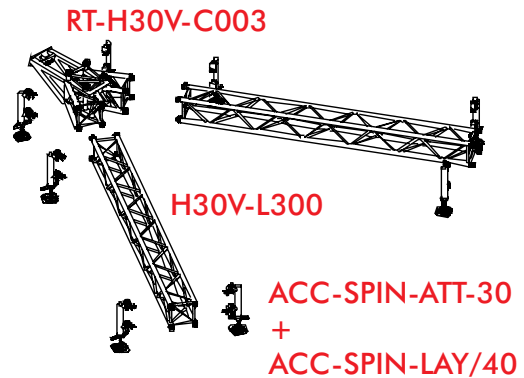

figure 1
**1** Assemble and connect the corner (RT-H30V-C003), the legs (H30V-L300) and the screwjacks (ACC-SPIN-ATT-30 + ACC-SPIN-LAY/40). See figures 1+2.